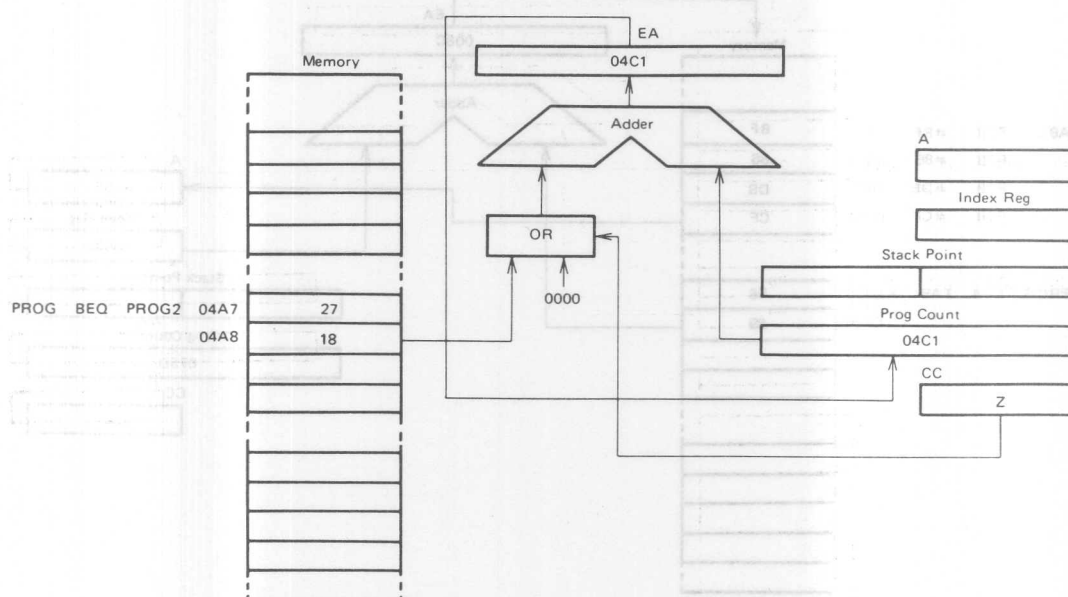

Figure 20 Relative Addressing Example
Refer to Figure 20. The relative addressing mode applies only to the branch instructions. In this mode the contents of the byte following the opcode is added to the program counter when the branch is taken. $EA = (PC) + 2 + Rel$. Rel is the contents of the location following the instruction opcode with bit 7 being the sign bit. If the branch is not taken $Rel = 0$, when a branch takes place, the program goes to somewhere within the range of +129 bytes to -127 of the present instruction. These instructions are two bytes long.